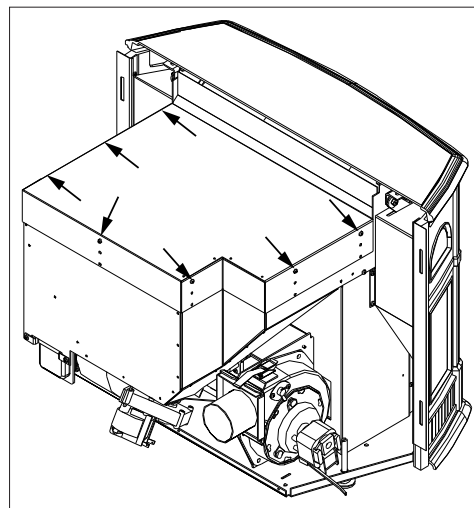

Figure 10: Screws to move hopper.
3. Using two (2) screws provided attach the cast skirt to the bottom of the unit as shown in Figure 10.